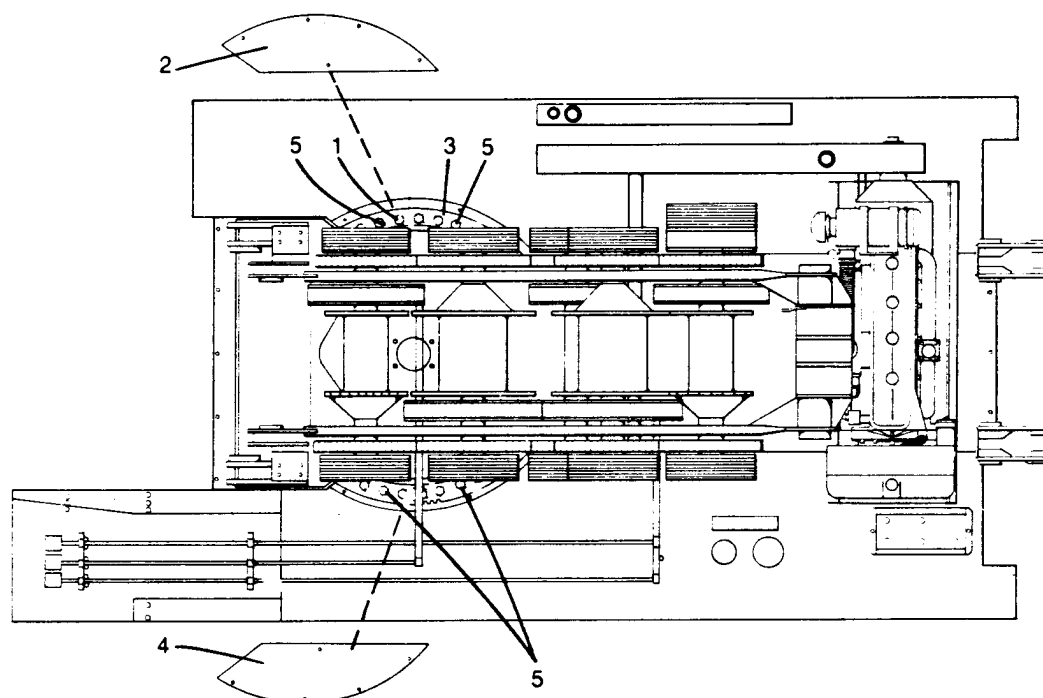

Fig. 2
- (c) Remove bearing cover plates from both sides of the revolving frame to expose the bearing. (Item 2 and 5, Fig. 2).
- (d) Install four positioning studs (6 in Fig. 2), in the tapped holes in the carrier frame or mounting base.